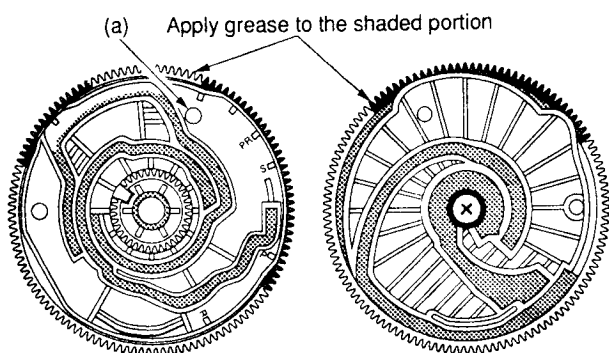

Fig. 6-30-1
6. Apply grease on a new cam gear on the shaded portion as shown in Fig. 6-30-1 and the shaft of the main base.
8. Push the cam lever (1) and the pin (2) (loading slider) in the direction shown by the arrows (A) and (B).
9. Mount the cam gear at the angle which the small hole (a) on the cam gear aligns with the hole on the mechanical deck. (Refer to Fig. 6-30-1.)